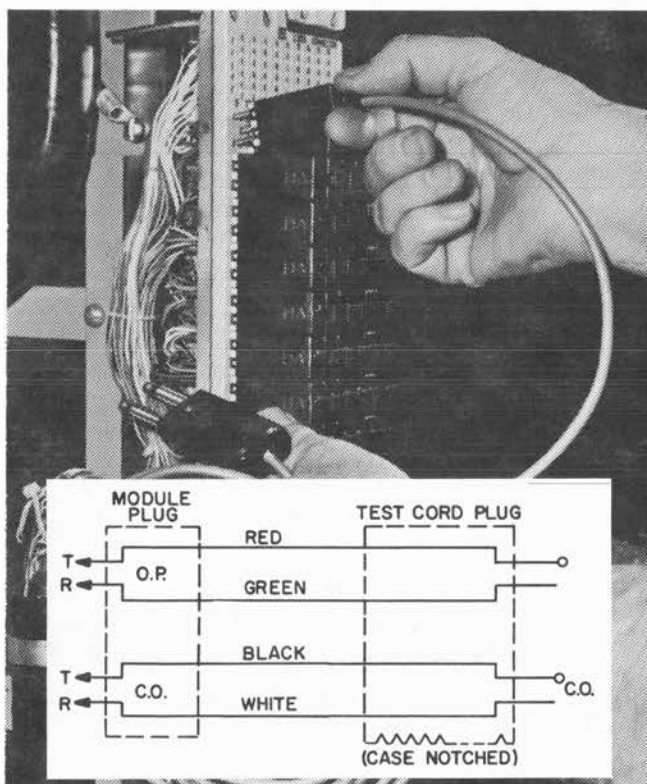

Figure 20
- 8.03 A four-conductor test cord (303-1012) shown in figure 20, can be used to test either toward the outside plant or toward the central office from the connector. First monitor on circuit to be tested to determine that the line is not being used. Remove the connector module of the pair to be tested and push the test cord plug into that position. The other end of the cord can be plugged directly into test equipment or a test jack that is cabled to a distant location. After testing, remove test plug and replace connector module making certain that the office is again connected to the outside plant. (Cord 303-1013 is equipped with the five-pin module plug only. The other end of the cable may be connected as desired to meet local conditions.)